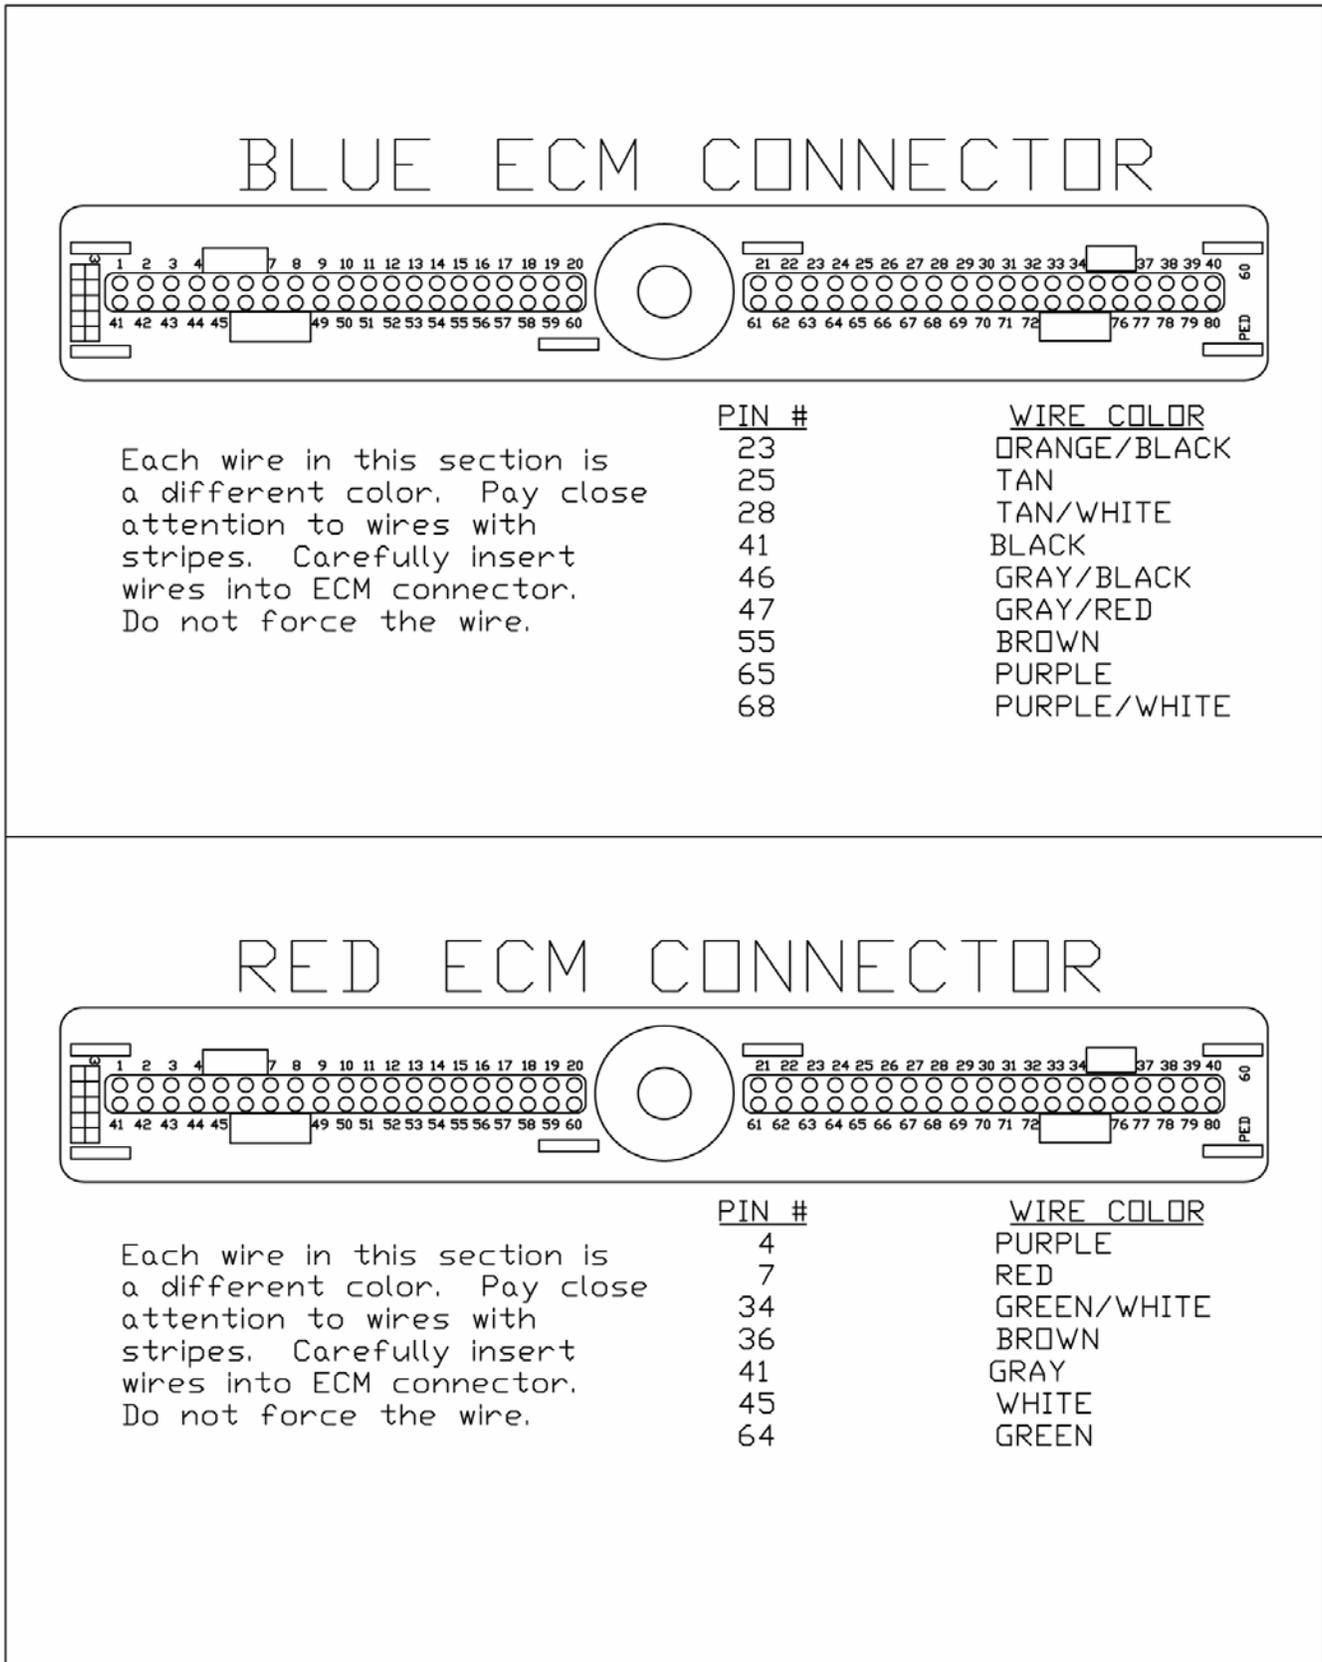

Figure 2 ECM connectors pin out
This emission harness is designed with the same dimensions as the 60508 or 60509 LS-1 Fuel Injection Harness. It is done this way so you can route these additional wires in the same fashion as you did the harness. Notice that connector (K) is a separate pigtail. Depending on the year of LS-1 engine you are using, you may or may not need this connector. This E.G.R. connector is pinned out at the factory. This is done because of the connector type needed. You will need to route these five wires through the firewall grommet from the engine side into the passenger compartment before inserting them into the computer connectors. Insert the emission wires into the correct computer connector according to the two diagrams in Figure 2. Notice that in each section there are no two wires colored exactly the same. Insert each wire until they click into place in the connector. After you have inserted all the wires, replace